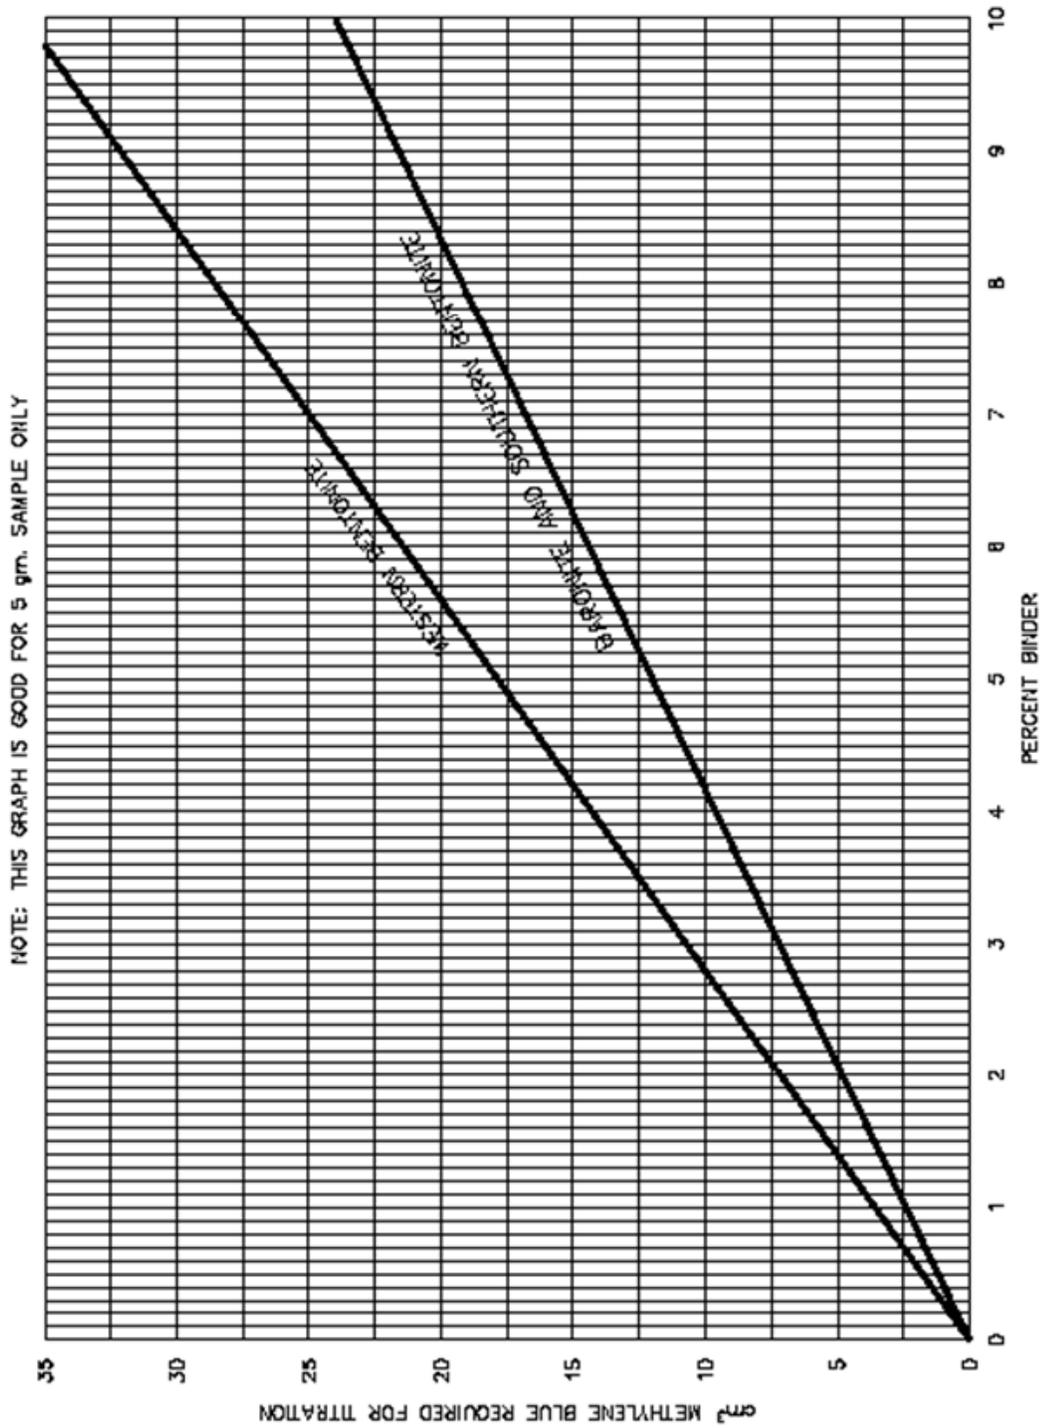

Figure 4-2 Percent Binder in Foundry Sand
| Figure 4-2 | Percent Binder in Foundry Sand | 14 |
10. Record the volume of methylene blue used to reach the endpoint. Read the percent binder in the sand from the graph in Figure 4-2.